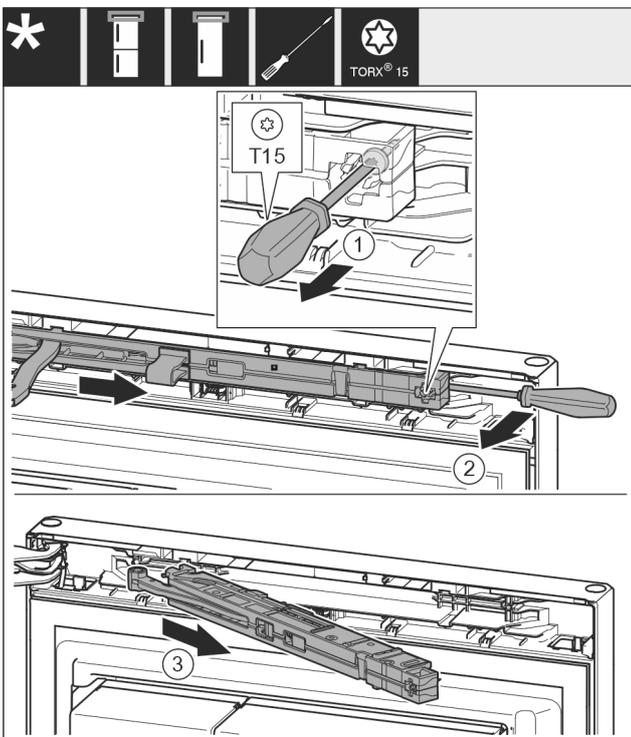

Fig. 13
- ▶ Use screwdriver to loosen the screw Fig. 13 (1) on the closing damper unit by 14 mm.
- ▶ Lever the closing damper unit Fig. 13 (2) forwards on the handle side using a screwdriver.
- ▶ Pull out the closing damper unit Fig. 13 (3).